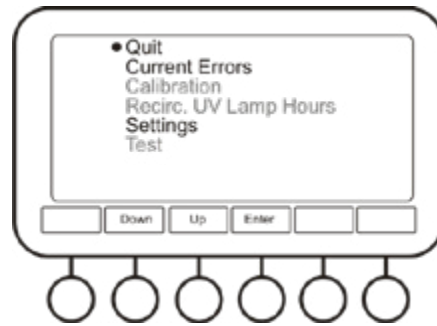

Fig. 6. Service menu
4.9.3. **Service** (fig. 6). This submenu has available options **Current Errors** and **Settings**.